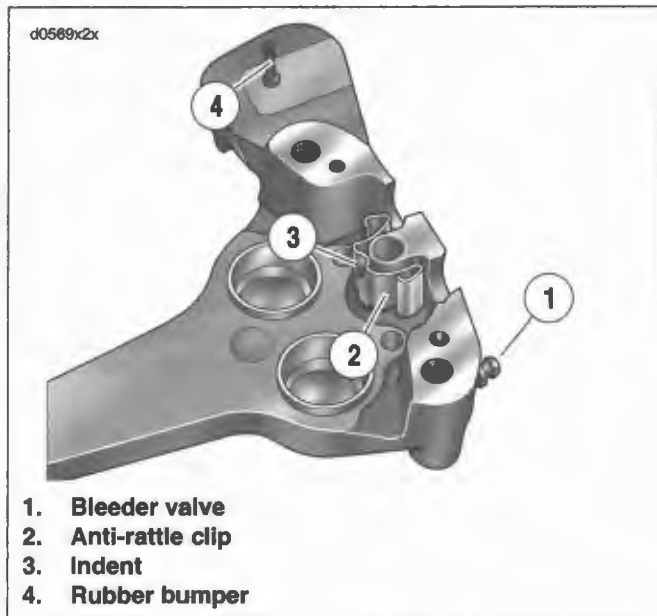

Figure 2-78. Anti-rattle Clip
- a. See Figure 2-78. Install bleeder valve (1) on outside caliper housing if removed. Tighten bleeder valve to 80-100 in-lbs (9.0-11.3 Nm).
- b. Place outside caliper housing on workbench with decal side down. Install anti-rattle clip (2) in channel with indent (3) facing upwards.
- g. If rubber bumper (4) on outside housing was removed, lubricate new part before installation.
- Anti-rattle clip orientation matches Figure 2-78.